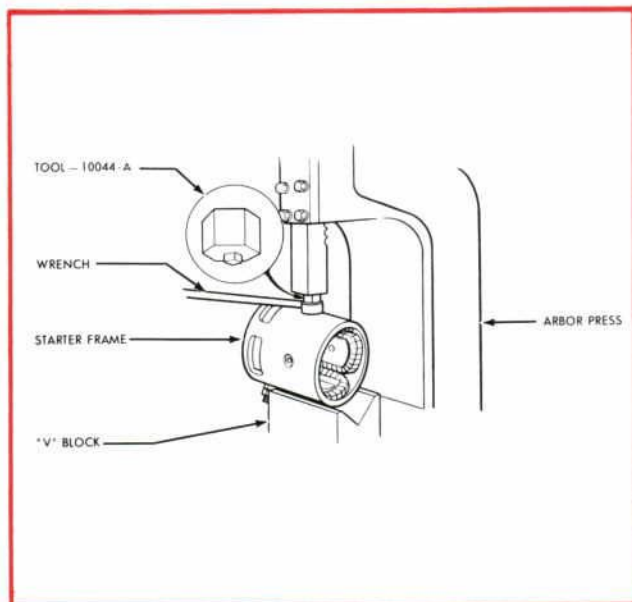

Figure 9—Field Coil Replacement
2. Position the coils and pole pieces, with the coil leads in the terminal screw slot, and then install the retaining screws (figure 9). As the pole shoe screws are tightened, strike the frame several sharp blows with a soft-faced hammer to seat and align the pole shoes, then tighten the screws securely.